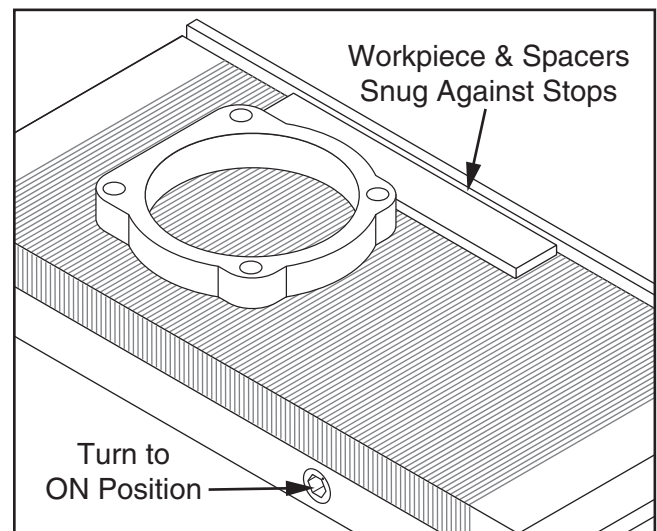

Figure 5. Positioning work stop and spacer.
6. Make sure workpiece is snug against spacer strip and spacer is snug against stop, then turn ON/OFF selector to **ON** position, as shown in **Figure 5**, to engage magnet.